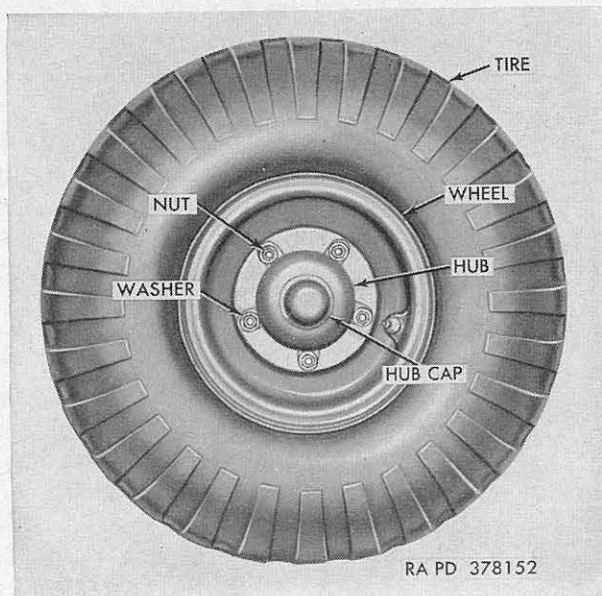

Figure 81. Wheel, hub and tire.
- (1) Raise wheel off ground, remove five nuts (fig. 81) and plain washers, and pull wheel and tire from wheel hub.
- (2) Pry hubcap (fig. 81) off hub.
- (2) Press hubcap onto end of hub.
- (3) Position wheel (fig. 81) and tire on
*a. Removal.* Pry hubcap (fig. 81) off of hub. Remove sealing ring (fig. 65) from annular groove in hub.